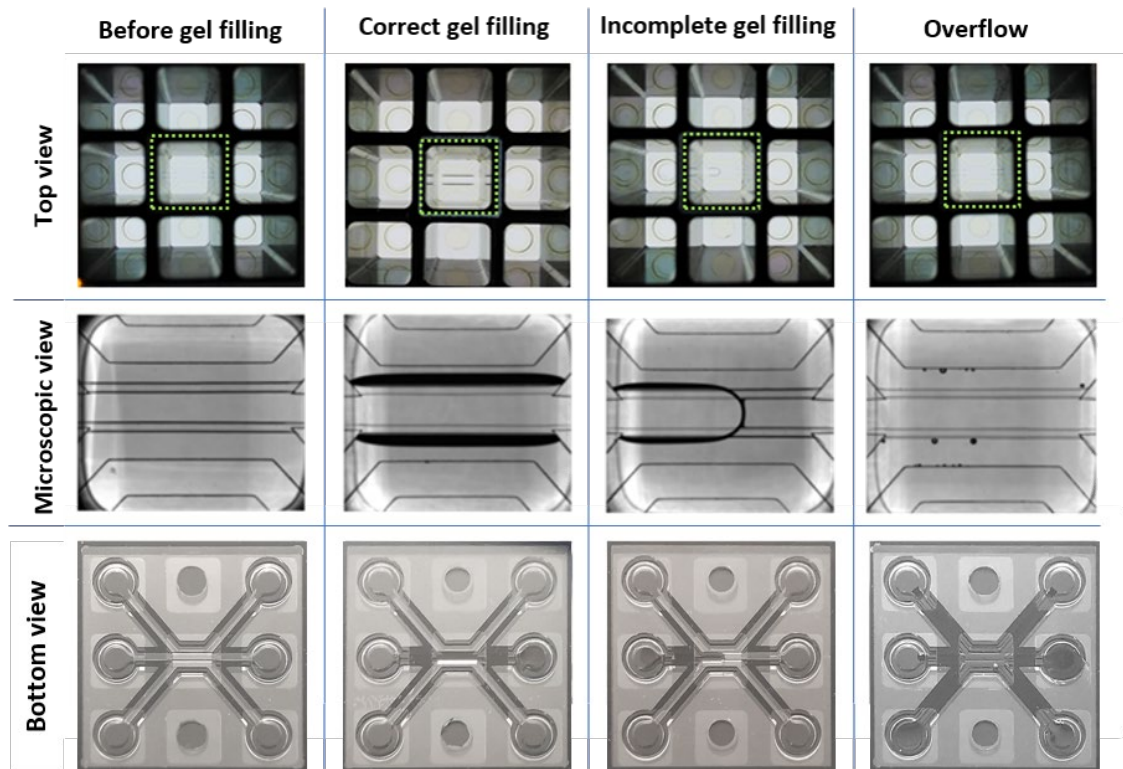

Figure 5: Overview of correct gel filling, incomplete gel filling, and overflow in the OrganoPlate® 3-lane.
- For examples of correct gel filling in the OrganoPlate® 3-lane, see figure 5.